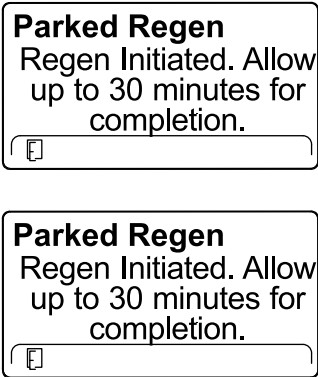

Figure 56
6. The InfoCenter displays the time to complete message (Figure 56).